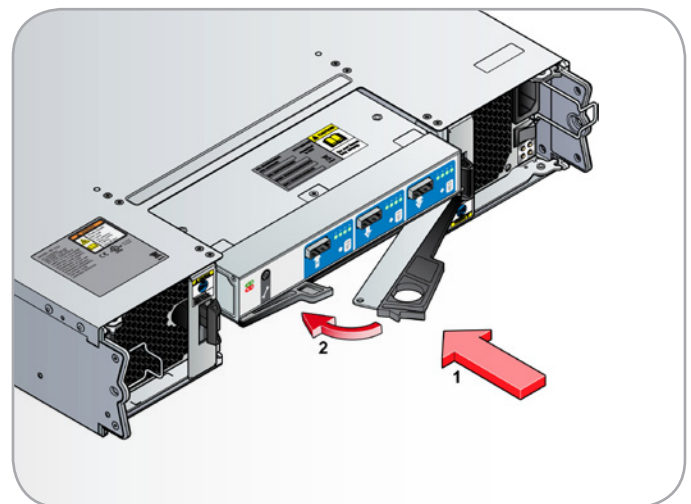

Fig. 46 - Inserting the Disk I/O Module
2. With the latch in the open position (see Fig. 46), slide the Disk I/O Module into the enclosure until the latch engages.